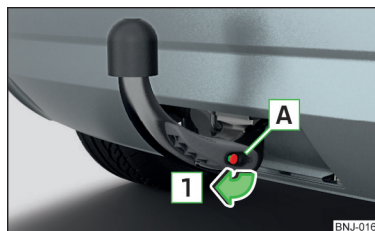

Fig. 137
- Remove the cover **A** from the lock in the direction of the arrow **1** » Fig. 137.